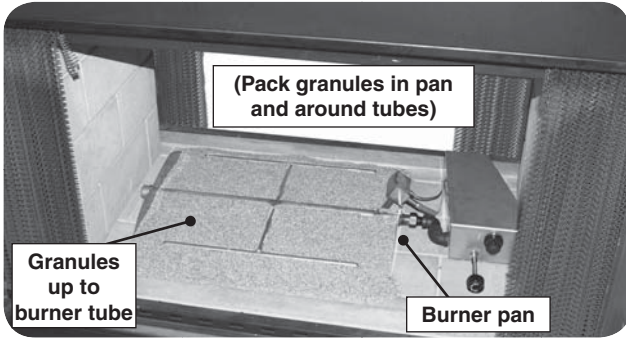

Fig. 8-1
1. Pour the granules into the pan until they just cover the burner tubes. Then pack the granules in the pan and around the burner tubes. Add additional granules as needed to end with the granules **level** with the top of the burner tubes. Slope the granules in the front portions of the pan. See Fig. 8-1 and Fig. 8-3.